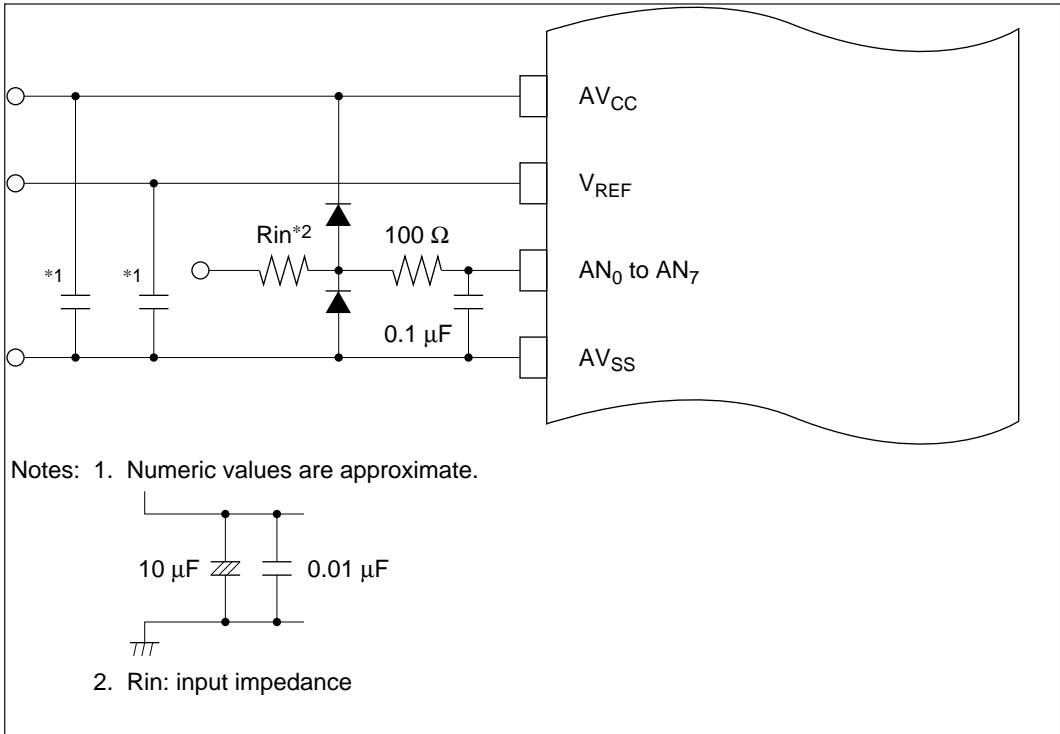

Figure 15-7 Example of Analog Input Protection Circuit
6. Note on Noise: To prevent damage from surges and other abnormal voltages at the analog input pins (AN_0 to AN_7) and analog reference voltage pin (V_{REF}), connect a protection circuit like the one in figure 15-7 between AV_{CC} and AV_{SS} . The bypass capacitors connected to AV_{CC} and V_{REF} and the filter capacitors connected to AN_0 to AN_7 must be connected to AV_{SS} . If filter capacitors like the ones in figure 15-7 are connected, the voltage values input to the analog input pins (AN_0 to AN_7) will be smoothed, which may give rise to error. Error can also occur if A/D conversion is frequently performed in scan mode so that the current that charges and discharges the capacitor in the sample-and-hold circuit of the A/D converter becomes greater than that input to the analog input pins via input impedance R_{in} . The circuit constants should therefore be selected carefully.